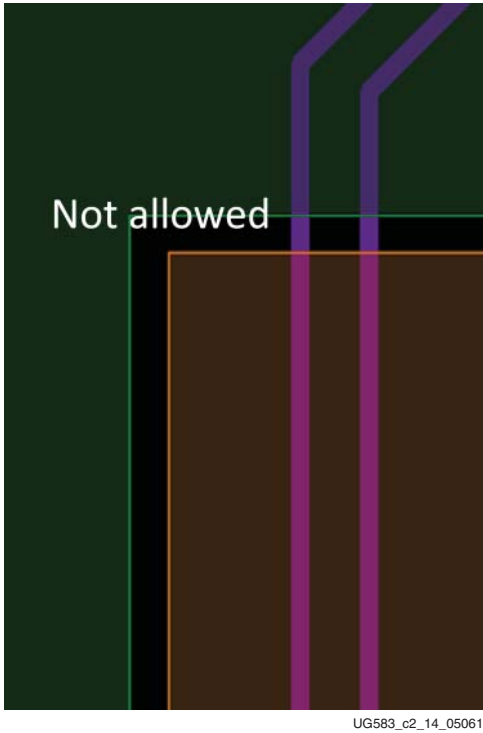

Figure A-3: Signal Routing Over Reference Plane Split
7. Avoid routing over reference plane splits (Figure A-3).